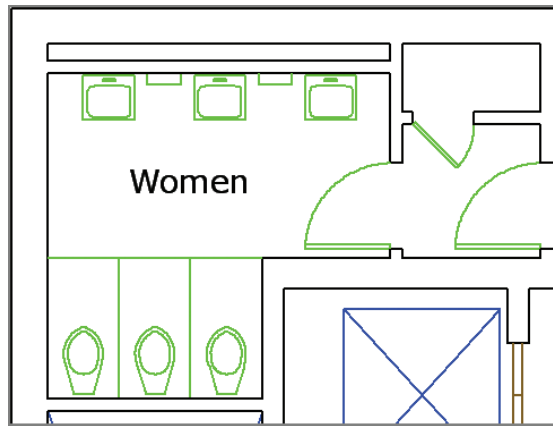

FIGURE 9.29 Redesigning the Women's washroom for three sinks
8. Redesign the Women's washroom so that it has three sinks, as shown in Figure 9.29.